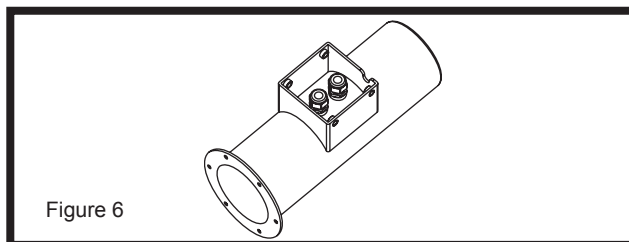

Figure 6
8. The cable strain reliefs that are provided in the kit can now be screwed into the bottom of the housing (Figure 6).